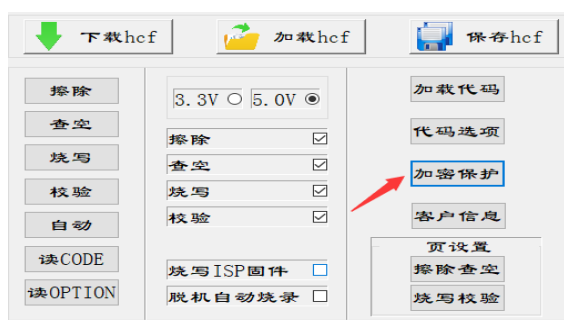

Figure 2-6
1. Select the chip model, configure the code option, check the encryption protection option after loading the code, and click the encryption protection setting option. (Figure 2-6)